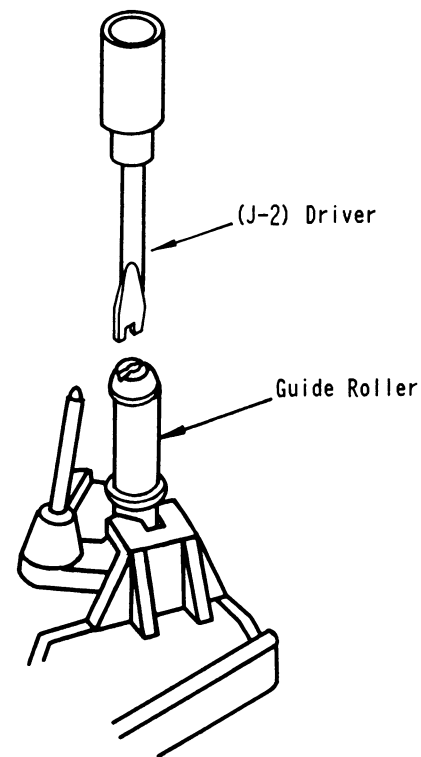

Fig. 5-5
7. Next, adjust the guide roller height. Insert the adjustment driver (FSJ-0001) into the guide roller top (Refer to Fig. 5-5). Adjust the height by turning the driver slightly so that the tape runs on the guide roller as shown in Fig. 5-3, and the lower edge of the tape runs along the lead surface of the cylinder.